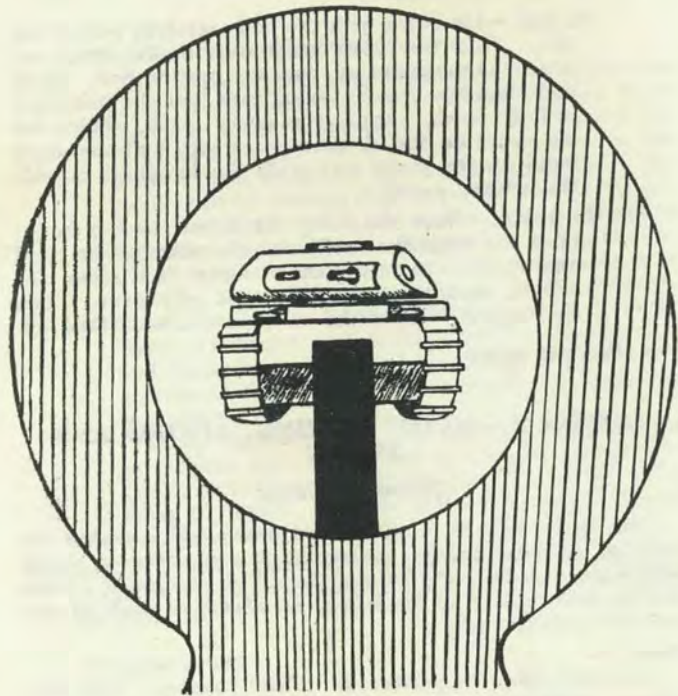

Fig. 4. Correct aim approaching tank.
Explain, using diagrams, that the method, of aiming is the same as that employed with the L.M.G. (see Fig. 4) but that with the anti-tank rifle the targets will normally be moving. The following rules will be applied when firing at A.F.Vs. :—
- i. When stationary, approaching, or retiring, aim at the centre (see Fig. 4).